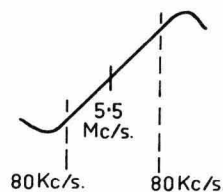

FIG. 4.
- The C. R. O. should then display a typical "S" curve centred on 5.5 Mc/s as shown in Fig. 4. A small readjustment of the secondary (bottom) core may be necessary to ensure that the curve is symmetrical about the 5.5 Mc/s marker.